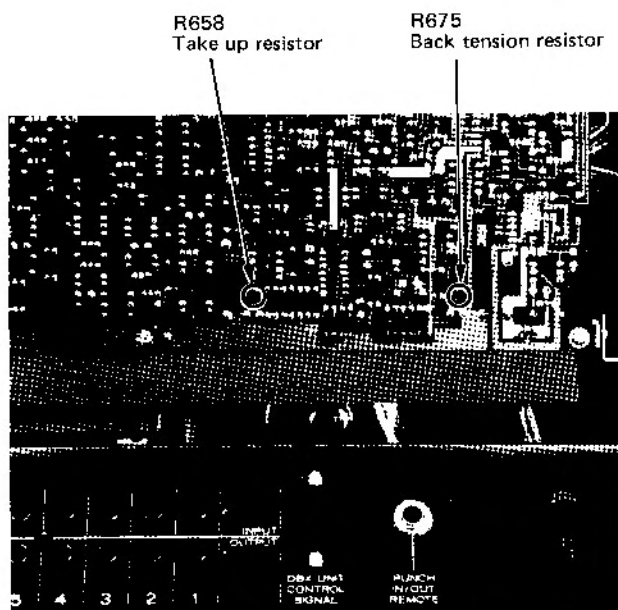

Fig. 2-5. Resistors for Tension Adjustment on Control PC Board
- The proper value is between 900 g-cm (12.5 oz-inch) and 1100 g-cm (15.3 oz-inch). Adjust the resistor (R658 on the control PC Board) to correct the take up torque. See Fig. 2-5 on page 59.